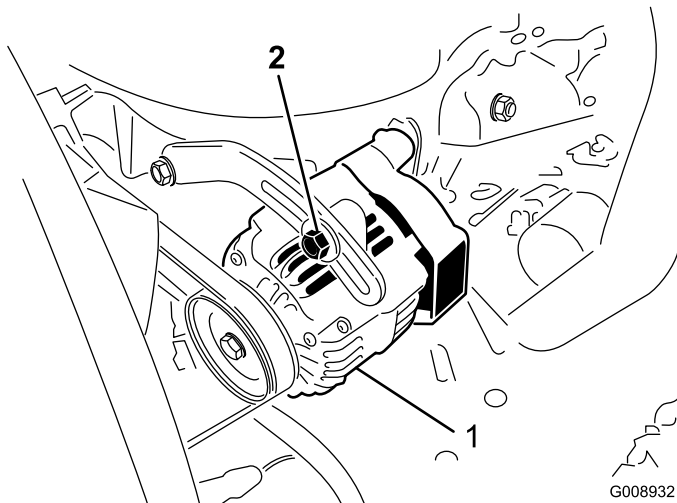

Figure 69
Check the condition and tension of the belts (Figure 69) after every 100 operating hours.
2. If the deflection is not 3/8 inch (10 mm), loosen the alternator mounting bolts (Figure 69). Increase or decrease the alternator belt tension and tighten the bolts. Check the deflection of the belt again to ensure that the tension is correct.